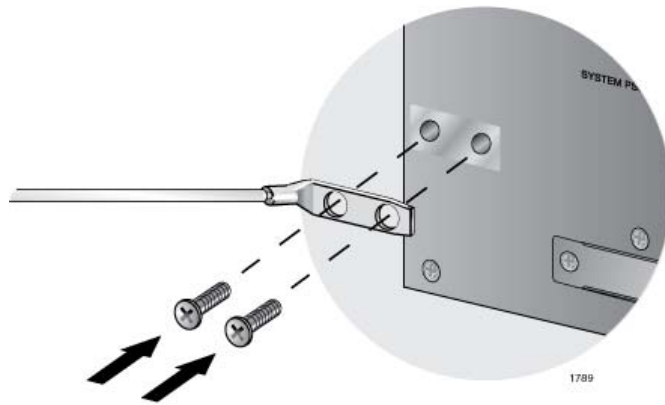

Figure 45. Installing the Grounding Lug and Wire
4. Install the grounding lug on the chassis, as shown in Figure 45. Allied Telesis recommends tightening the screws to 20 inch-lbs.